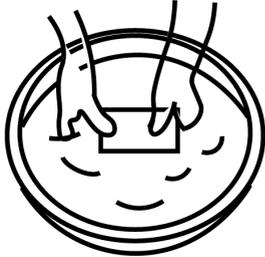

Figure 27
- Carefully wash the filter in lukewarm soapy water, Fig. 27.